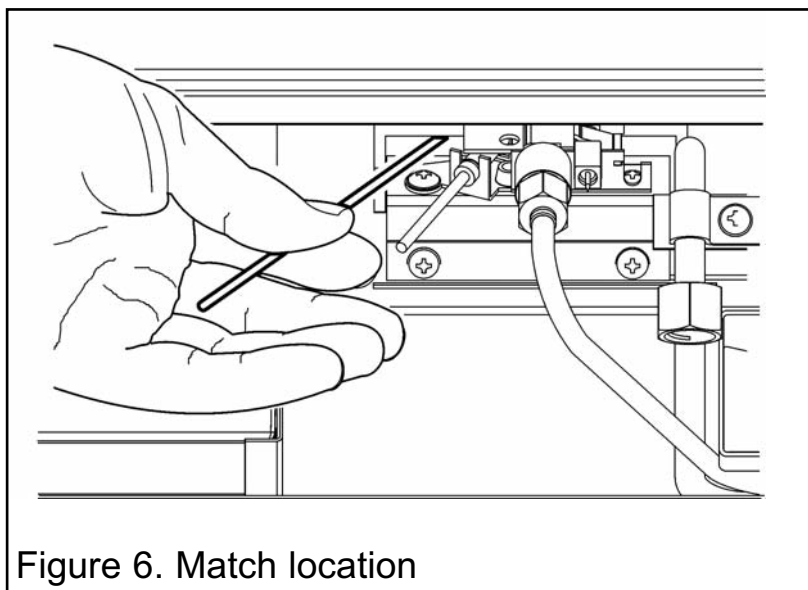

Figure 6. Match location
- Fully push down the manual pilot valve operator using the end of a pencil or similar and hold in to start pilot gas flow. Immediately light the pilot with a long match held at 45° at the left hand side of the pilot (See figure 6), while continuing to hold in the manual pilot valve operator for about ten (10) seconds after the pilot is lit. Release manual pilot valve